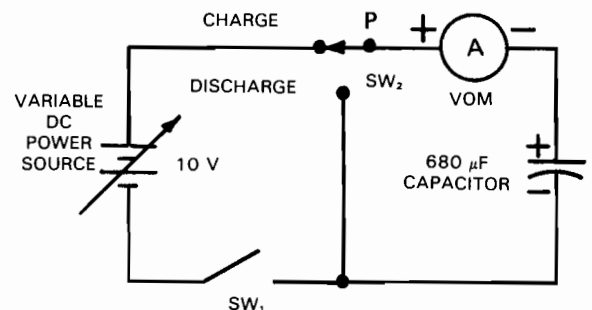

Fig. 10-2-1
1. Connect capacitor test circuit of Fig. 10-2-1. A $680\ \mu\text{F}$, 50 V dc capacitor may be found on power supply module board or connected to a single mounting strip.